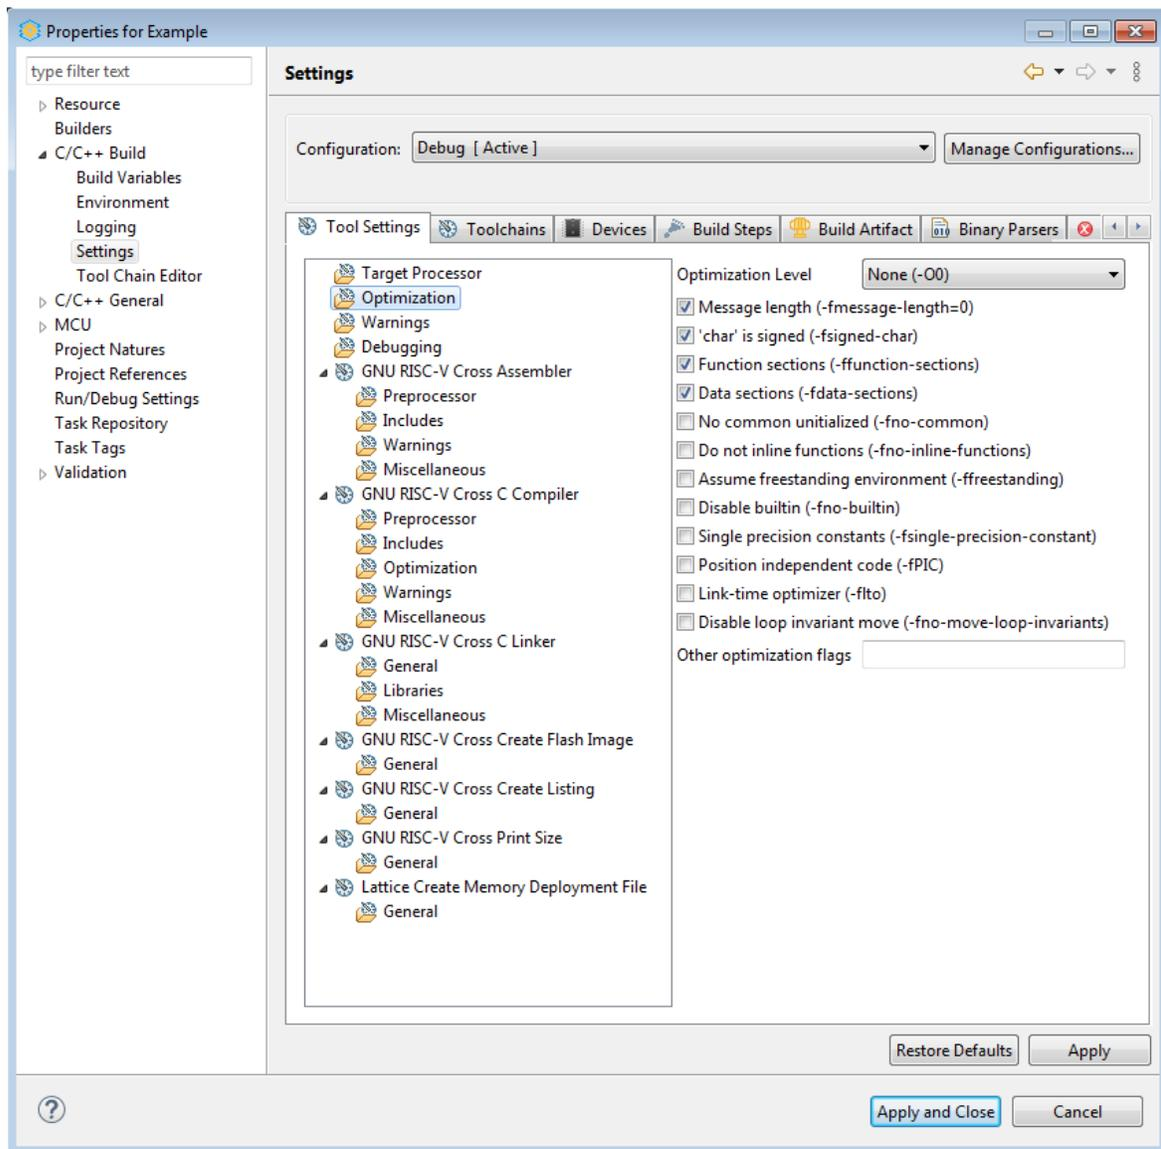

Figure 3.27. Properties of C Project
2. Choose **Project > Properties**. The Properties for current project opens (Figure 3.27).